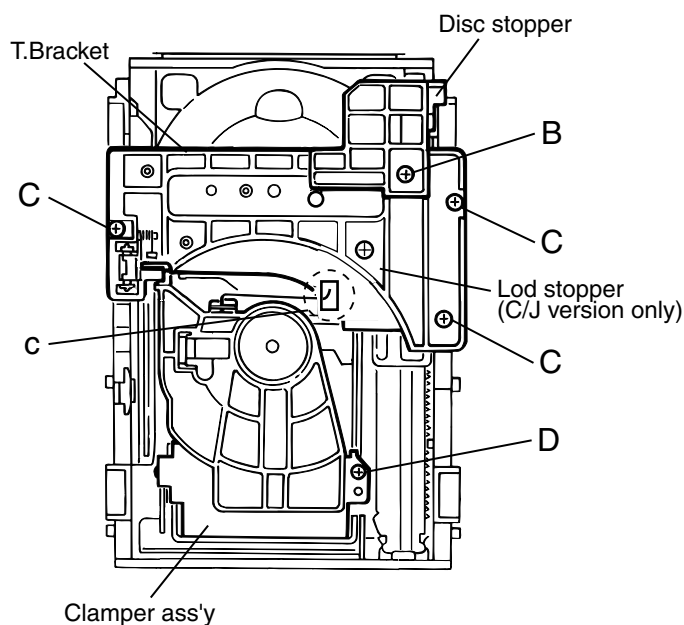

Fig.3
4. Remove the screw B retaining the Disc stopper (See Fig.3).
5. Remove the three screws C retaining the T.bracket (See Fig.3).
7. Remove the screw D retaining the clamber assembly (See Fig.3).